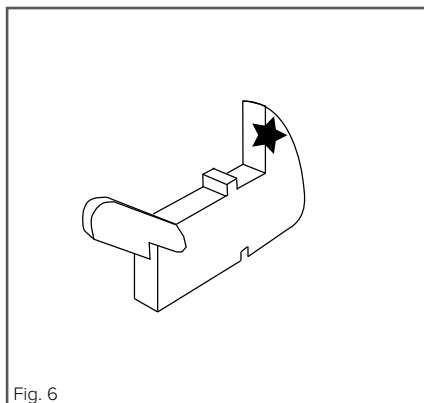

Fig. 6
- Hold the door to the appliance in the closed position and manoeuvre the hinges so that the part of the hinge, highlighted by the star in fig. 6, inserts into the hinge slot in the cavity frame.